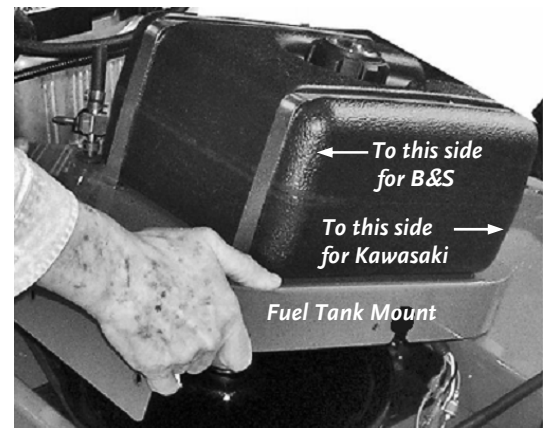

Figure 19
6. Carefully lift and set the Fuel Tank Mount (**Figure 19**) to the Fuel Line side of the Engine.